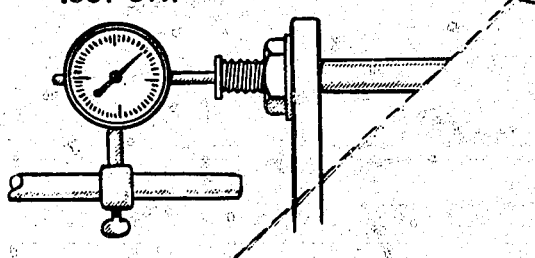

Figure 5
1. Remove governor cover and attach dial indicator in position to contact stop plate or end of stop plate screw (See Figure 5). Indicator should be zeroed with no air to the PUFF LIMITER.
Dial indicator with .001" subdivisions. Indicator to be provided with an adjustable bracket for longitudinal positioning. (See Figure 5)